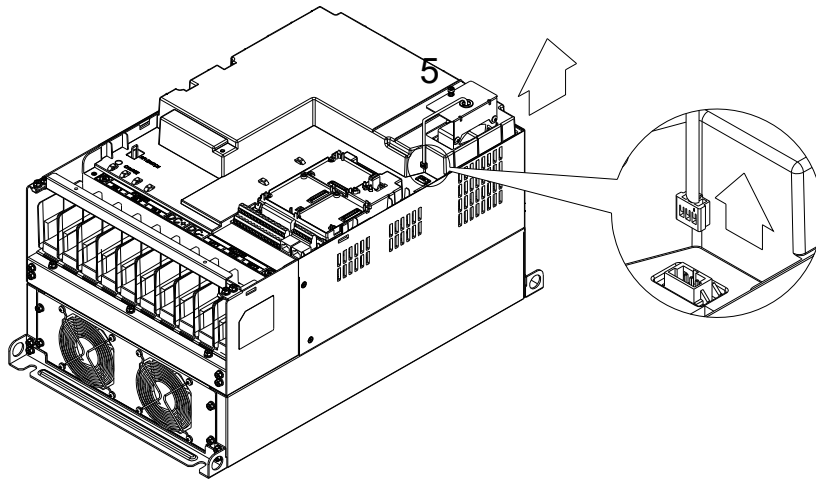

Figure 3
3. Loosen screw 5 (figure 3) and disconnect fan power and pull out the fan. (As shown in the enlarged picture 3)